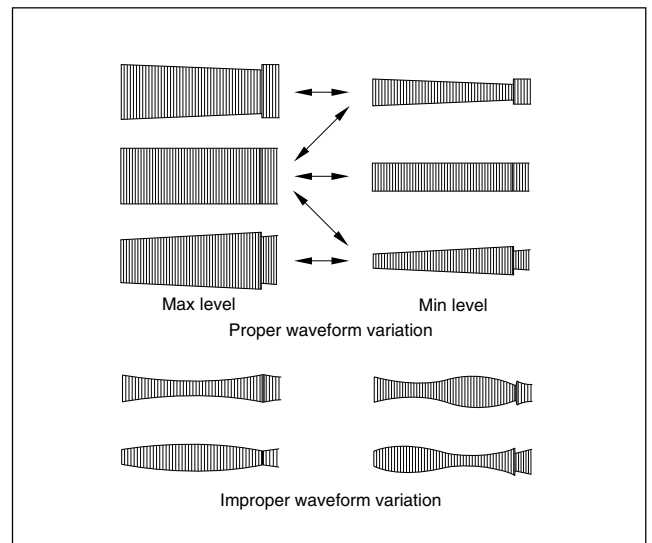

Fig. 2-3-1a
- (1) Play back the alignment tape (A1).
- (2) Apply the external trigger signal to D.FF (E), to observe the V.PB FM waveform at the measuring point (D).
- (3) Press the channel buttons (+, -) simultaneously to enter the manual tracking mode. This also brings tracking to the center (centre).
- (4) Make sure that there is no significant level drop of the V.PB FM waveform caused by the tracking operation, with its generally parallel and linear variation ensured. Perform the following adjustments when required. (See Fig. 2-3-1a.)